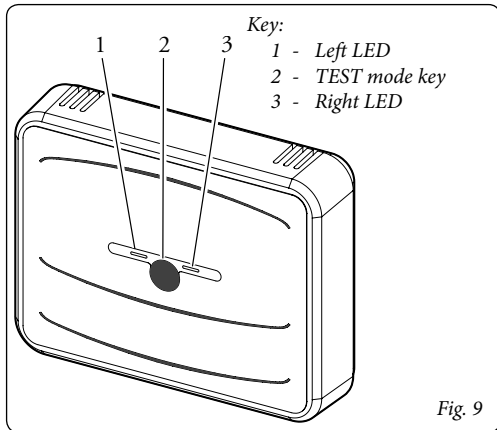

Fig. 9
The right LED (ref. 3 fig. 9) indicates the receipt or stand-by for reception of the CRONO 7 signal in normal functioning
mode while the one on the left (ref. 1 fig. 9) indicates the operational status of the device. As the system is battery powered, the LEDs remain off for most of the time.
- One long single flash of the right LED (ref. 3 fig. 9) indicates no reception of a valid packet from associated CRONO 7. In this case, the RF communications are absent; this status indicates an anomaly or the absence of an associated and functioning CRONO 7;
- One brief single flash of the right LED (ref. 3 fig. 9) indicates reception of a valid packet from associated CRONO 7. In this case, the RF communications are present and operating correctly (except for anomalies indicated by the CRONO 7). This is the normal functioning status in the presence of an associated and functioning CRONO 7;
The continuous flashing of the left LED (ref. 1 fig. 9) for 10 seconds indicates an association/installation stand-by phase of the Base at a CRONO 7, which requests association;
Switch-on of the left LED for 2 seconds (ref. 1 fig. 9) indicates the entry to TEST mode (see par. 11); switch-on is guaranteed exclusively if the Base and the associated CRONO 7 are synchronised at that moment. If this is not the case, the left LED (ref. 1 fig. 9) will remain off.